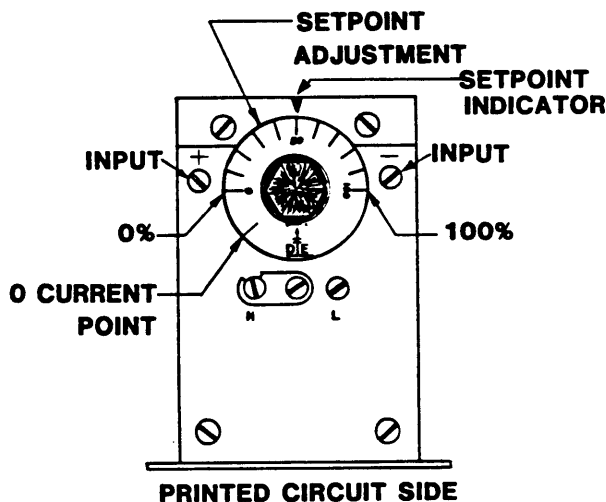

Figure 3-1
There is a single dial located on the printed circuit side of the instrument that controls the point at which the relay will operate. See Figure 3-1.
A. Turn the setpoint dial to the number that represents the percent of level where relay operation is desired. See Figure 3-1. The setting on the Setcon dial directly corresponds to current from the level transmitter in percent.
C. With the setpoint dial in the full CCW position, turn the dial slowly CW toward the current setting until the relay just drops out. (Relay will "click" and terminals 3 and 4 will be closed.) See Figure 3-1.
relay just pulls in. See Figure 3-1. (Relay will "click" and terminals 4 and 5 will be closed.)